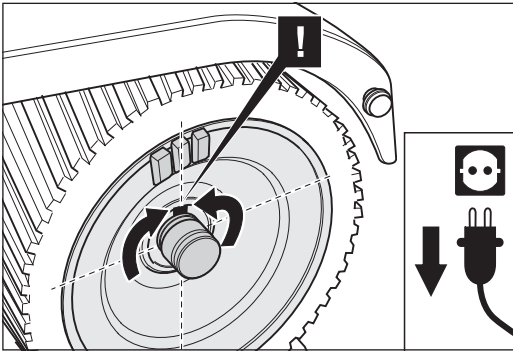

Fig. 87 Turn the sanding drum in such a way that the groove is pointing upwards to ensure that the parallel key is not lost.
- 8 Turn the sanding drum in such a way that the groove is pointing upwards to ensure that the parallel key is not lost (Fig. 87). Now pull the sanding drum out sideways out of the housing.